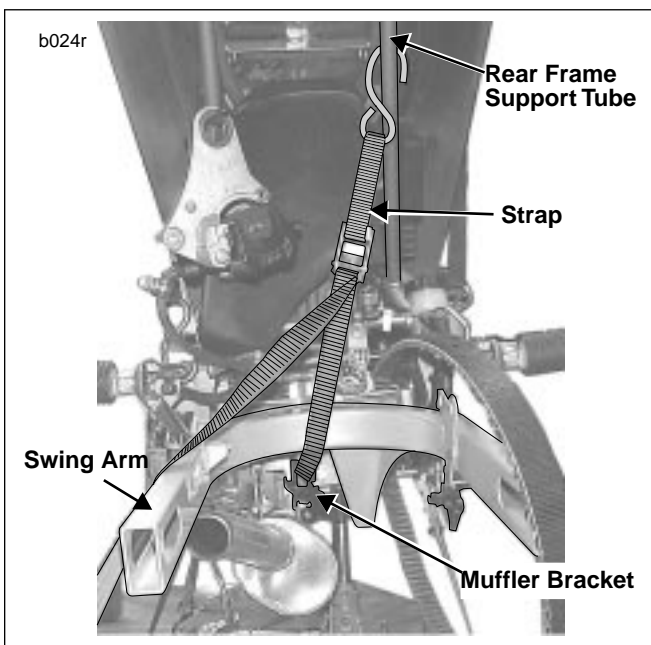

Figure 5. Swing Arm Supported with Strap (Typical)
22. See Figure 5. Support swing arm with strap (connect strap at rear frame support tube and rear muffler bracket).
2. See Figure 5. Position **new** swingarm to mount block using strap to support swing arm. Make sure swing arm bearings are aligned with mount block.